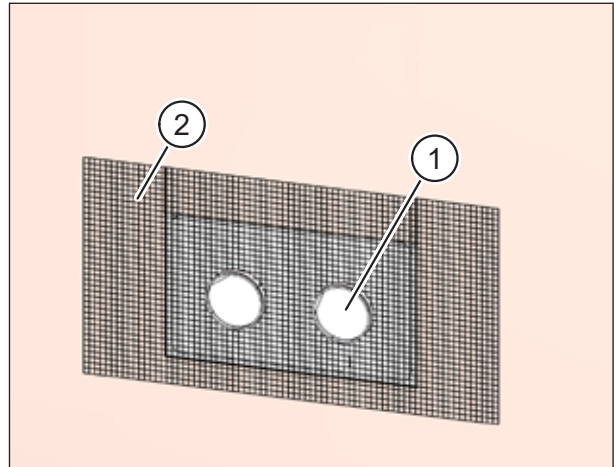
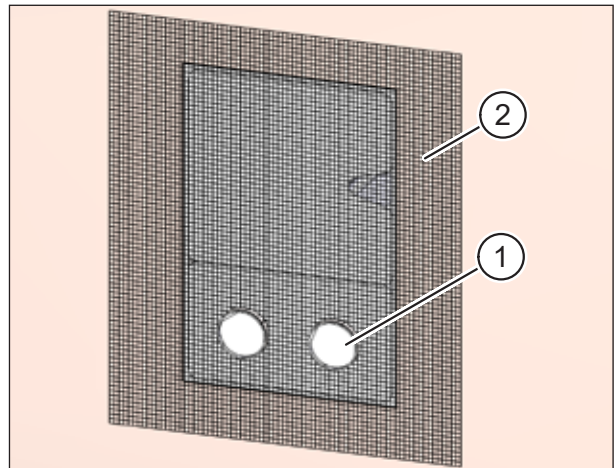

Fig. 66: Plastering the installation kit **without** filler piece
Fig. 67: Plastering the installation kit **with** filler piece
- ▶ Insert the protective sleeves (item 1 in Fig. 66 and Fig. 67). They should extend beyond the external wall so that they will end flush with the subsequent plaster coat. The protective sleeves provide the bonding surface for the external plaster.
- ▶ Apply the plaster scrim (item 2 in Fig. 66 and Fig. 67) to the outside of the wall box, external wall and/or facade insulation.